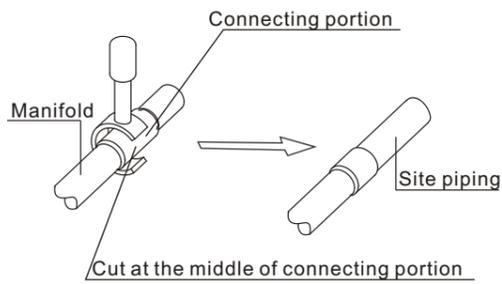
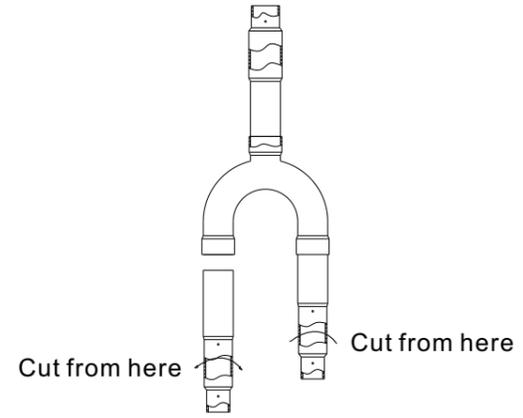

Figure 1
Figure 2
- a. After the selection of RVF-RDIXHR1 type, the obtained actual object as shown in Figure 1, supposing the tubing we presently use is $\phi 15.88$, the welded pipe of the manifold assembly shall be cut according to the Figure 2.
- b. Then the independent tube shall be cut according to the Figure 2.
- After the model RVF-RDOUX2HR is selected, the obtained actual material is shown in Figure 1. Assume the current unit outlet pipe is φ31.8 and the main pipe is φ38.1. Cut the independent pipe Q1 of the manifold assembly according to Figure 2.
- The independent pipe Q1 and Q4 shall be welded with U-shaped tee Q3 according to Figure 2. And discard the independent pipe Q2 and Q5.